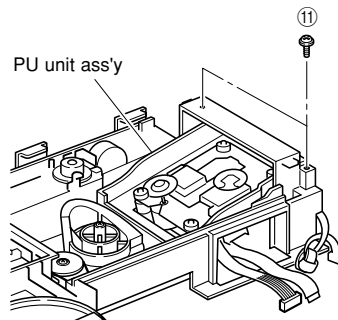

Fig. 6
- Remove 2 screws (⑪) and then remove the PU unit ass'y. (Fig. 6)